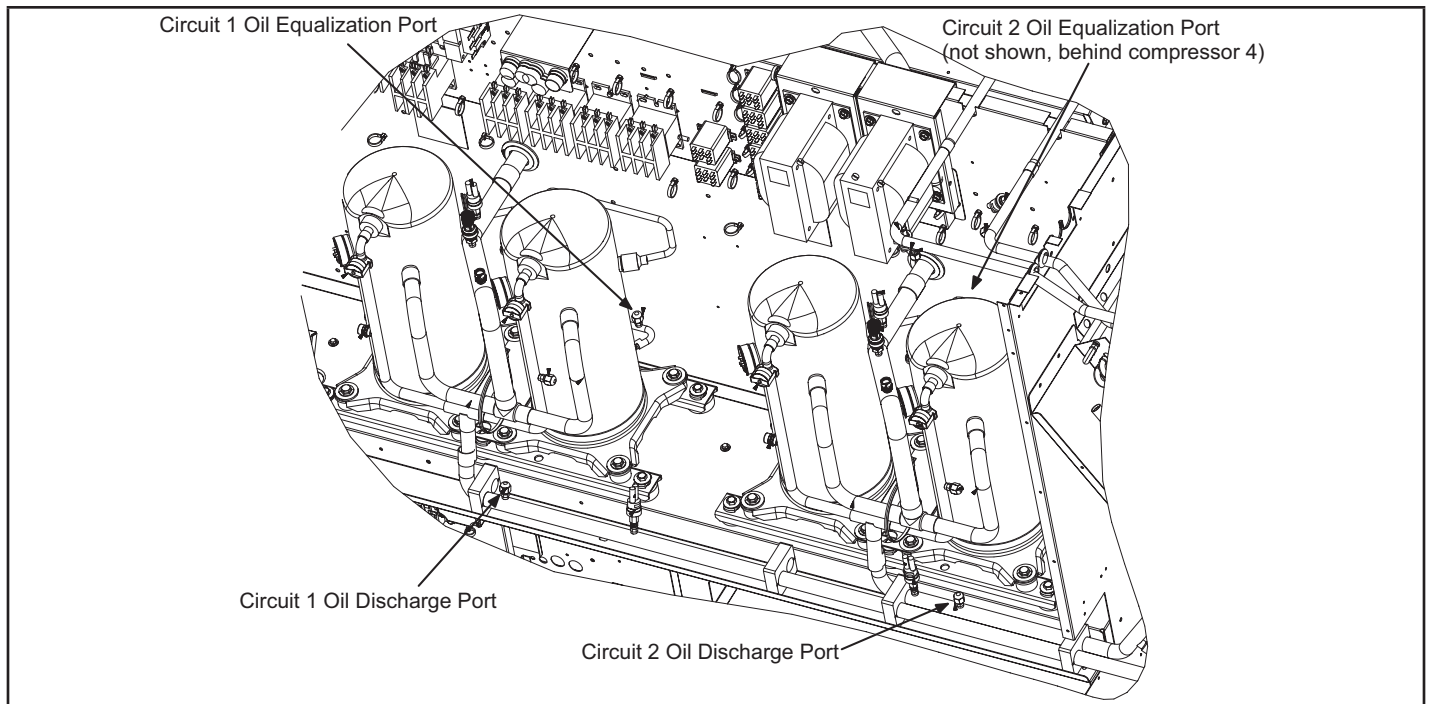

FIGURE 31
- 1 - Run the unit in full load (both compressors running) for a minimum of thirty (30) minutes or until compressor sump superheat is above 20°F.
- 4 - With the unit running in full load, connect the high side manifold gauge hose to the open pressure tap fitting on the common discharge line (see Figure 31). Briefly crack the high side manifold gauge valve to purge the high side and middle manifold gauge hoses.
- 10 - Lightly thread the hose coming from the oil container onto the pressure tap fitting provided on the oil equalization line located near the base of the compressors (See Figure 31). Do not depress the Schrader Valve..